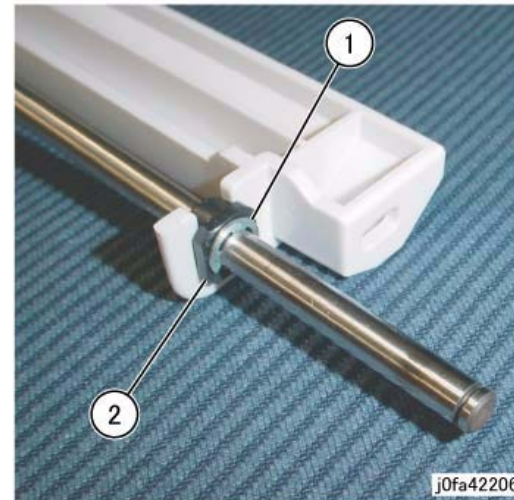

Figure 6 Removing Bearing
10. Remove the Bearing (Figure 6):